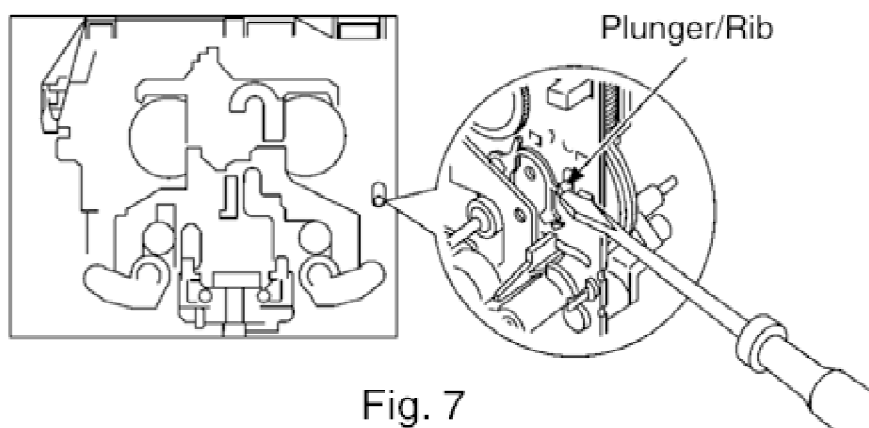

Fig. 7
3. Lift up the mechanism unit's plunger/rib with the tip of a negative screwdriver, and operate the unit in the same timing as / supplying the power. (Cf. Fig. 7) / (Note) Follow Step 4 in Item 1.1. for procedure on operating each function.